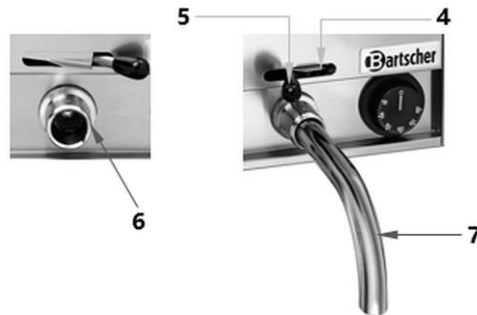

Fig. 3
3. Before draining the cooking residues, attach the grease drain pipe (7, Fig. 3) to the pipe connection (6) using the bayonet lock.
5. Open the grease drain by pushing the latch (4) upwards and, with your other hand, moving the lever (5) to the left.